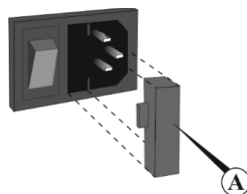

Figure 3. Fuse replacement in MSH-300i
- 8.4.2 In the **Intelli-Stirrer MSH-300i** model, the fuse is located inside its holder near the power socket (fig. 3/A). Disconnect the unit from the mains and unplug the power cable. Pull out the fuse holder by applying leverage in the recess. Check the fuse and replace, if necessary, with a correct one, see table below. Fuse type **M** – time delay Medium.